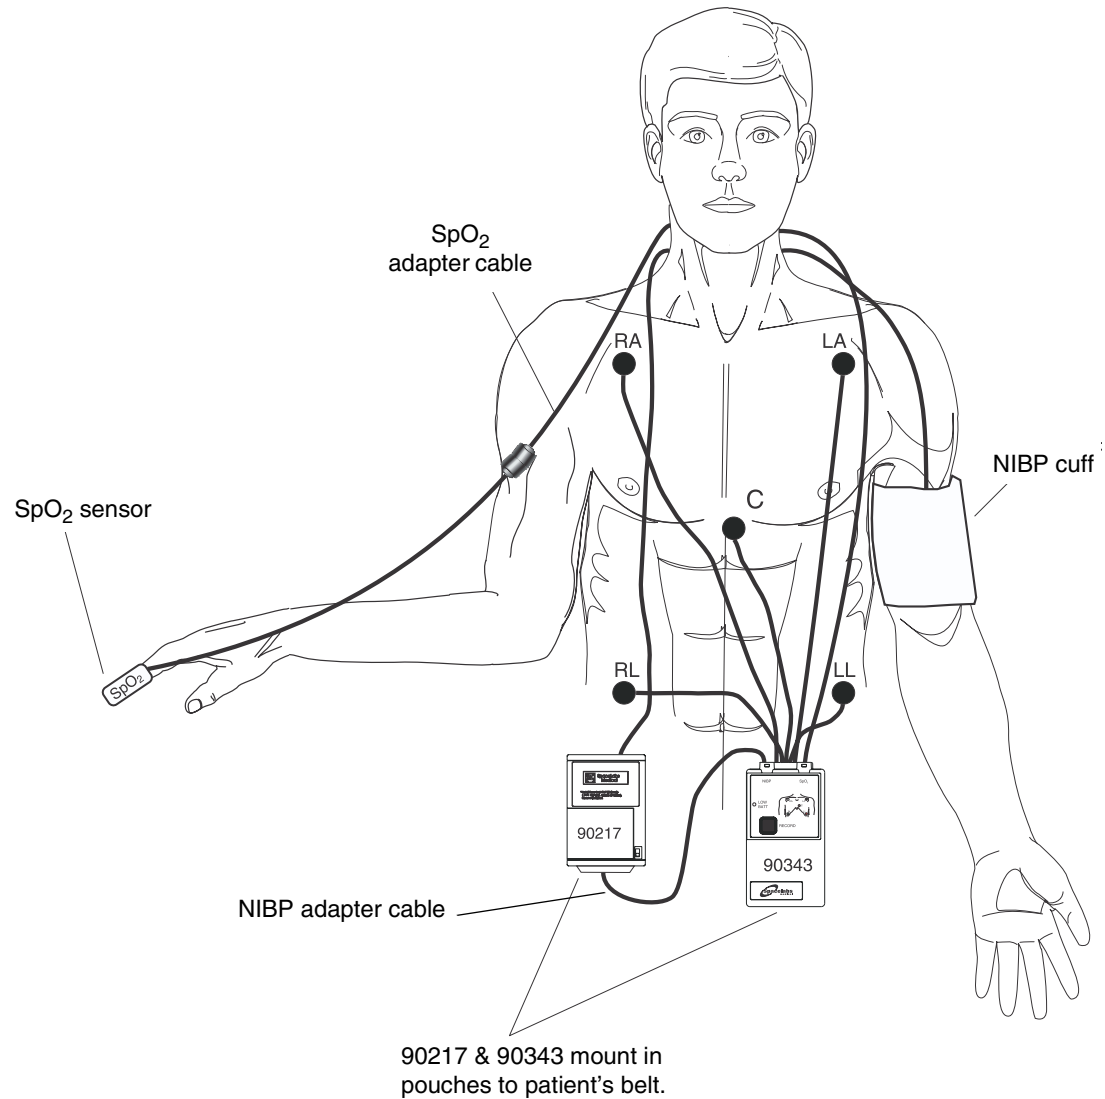

Figure 17-5: Transmitter ECG, SpO₂, and ABP monitor connections
11. Interconnect the adapter cable between the communications port on the ABP monitor and the NIBP port on the 90343 as shown in *Figure 17-5*.